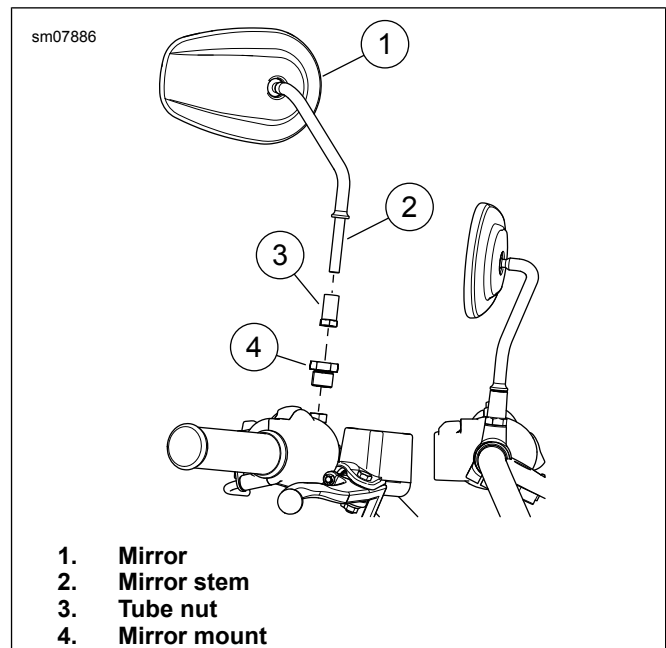

Figure 2. Mirror
1. See Figure 2. Remove mirror.
- a. Remove mirror (1).
- b. Remove tube nut (3).
- c. Remove mirror mount (4).
1. See Figure 2. Install mirror.
- a. Install mirror mount (4). Tighten.